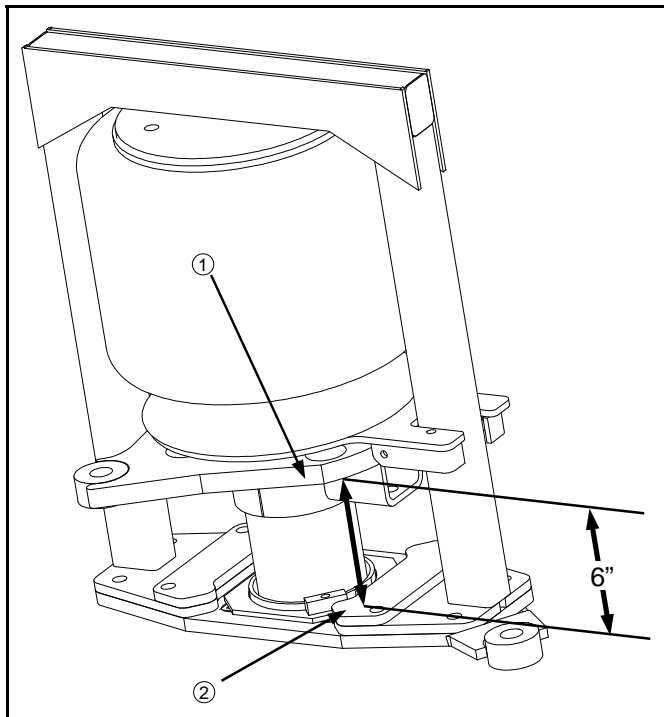

FIG 7.54
Park the machine on level ground with outriggers completely unfolded in field operating position. Adjust the air pressure in each air bag until the distance between the bottom of the steering plate (fig. 7.54, item 1) and the top of the bumper pad strike plate (fig. 7.54, item 2) is 6 inches. With a clear path on level ground, drive the machine forward 100 yards, cycling the steering back and forth, shifting machine weight from side to side. Stop on level ground and remeasure and adjust as necessary. Repeat procedure until desired measurement is achieved.